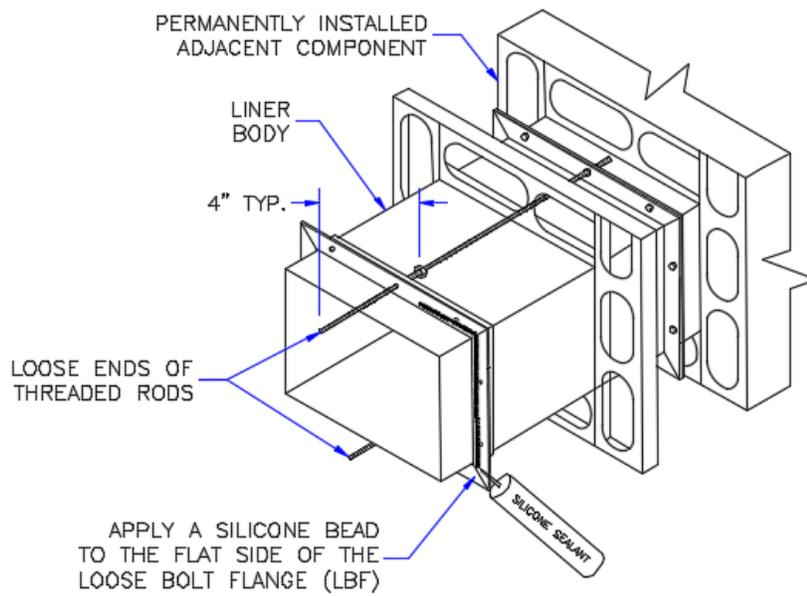

Figure 7: Slide the Loose Bolt Flange over the Liner Body and apply a bead of silicone.
- It is important to choose holes that allow the threaded rod to pass unobstructed through the spacer. (See figure 7)
12. Place a bead of silicone to the flat side of the LBF all the way around. (See figure 7)